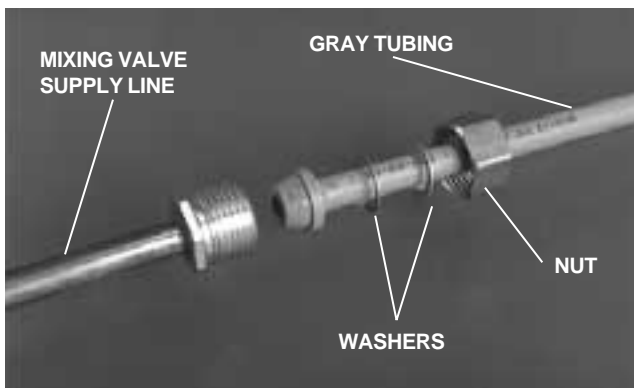

FIGURE 27
1. Slide two brass washers and a brass nut over the small end of both three foot long gray tubings (see *Figure 27*). Insert the gray tubings into the mixing valve supply lines. The nipple end must be toward the mixing valve. Slide the washers and nut onto the mixing valve supply line and tighten firmly.